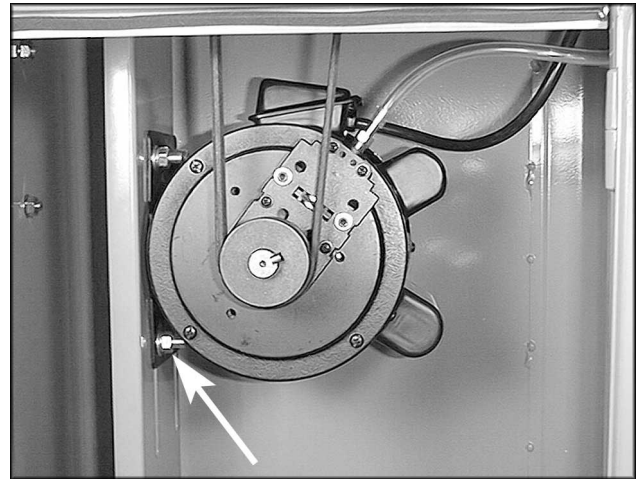

Fig. 4
- Loosen the nuts on the four motor mounting bolts (Fig. 4), and tension the v-belt by pushing down on the motor. Tighten the four motor mounting nuts.